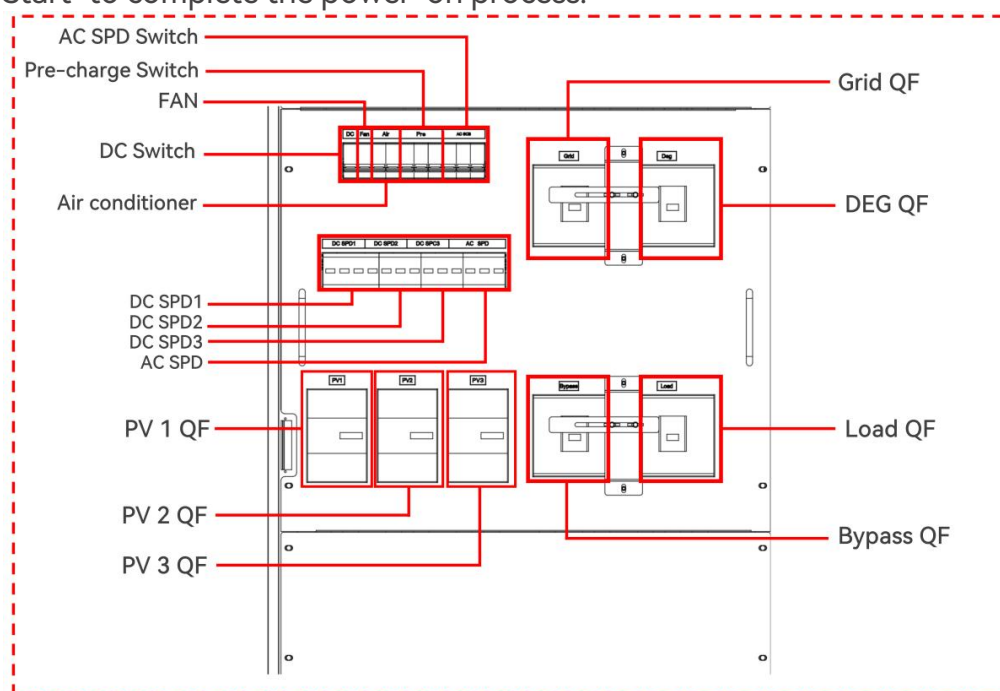

Figure 5.3 Switch Position Diagram
2. Refer to Figure 5.3. Close the Pre-charge Switch, Air Switch, DC Switch, and close the Grid QF to complete the soft startup of the transformer.
Step 2: Refer to Figure 5.3 and disconnect the systems: Air Switch, Pre-Charge, and Pre-Charge Switch.
Step 2: Refer to Figure 5.3, shutdown all auxiliary power switches, AC/DC molded-case switches, and Battery DC Breaker of the system;
1. System startup: First, check the power-on status of the entire machine. Refer to Figure 5.3 for closing the Pre-Charge Switch and DC Switch, then close the Grid QF to complete the soft startup of the transformer.